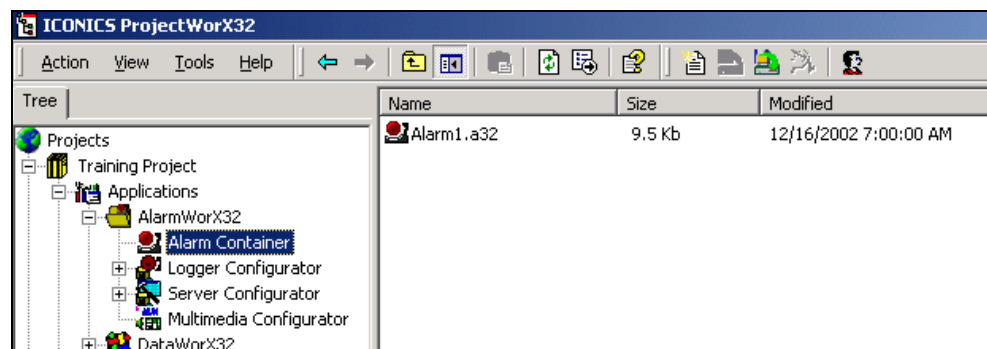

Figure 4.7
3. The new file appears in the component tree (in this case Alarm Container) and is displayed in the right-hand pane of the ProjectWorX32 console, as shown in **Figure 4.7**. ProjectWorX32 automatically launches the new file in the selected application (Alarm Container).